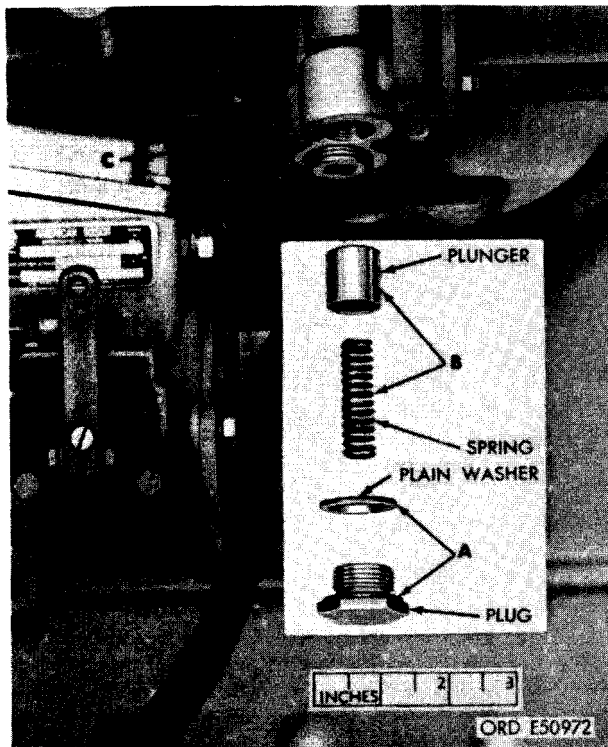
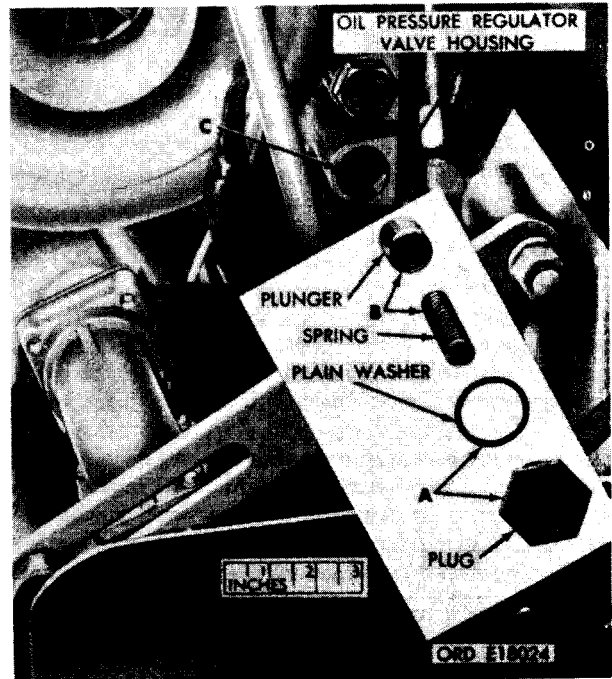

FIGURE 100. REMOVING, INSTALLING, AND INSPECTING OIL COOLER BYPASS VALVE.
FIGURE 102. REMOVING, INSTALLING, AND INSPECTING PISTON OIL COOLING NOZZLE OIL PRESSURE RELIEF VALVE.
**a. Removal and Inspection.** Figure 100. (A) Remove oil cooler bypass valve plug and plain washer from oil cooler and filter housing. Discard plain washer. (B) Remove oil cooler bypass spring and plunger from machined bore in oil cooler and filter housing. (C) Inspect oil cooler bypass valve plunger bore in housing for burrs, scratches, wear, or obstructions. Clean bore thoroughly using dry-cleaning solvent or mineral spirits pain thinner. Remove slight burrs and scratches in bore with crocus cloth.
**c. Installation.** Refer to figure 100 and reverse the sequence of instructions and install the oil cooler bypass valve components. Use a new plain washer when installing oil cooler bypass valve plug.
**Note.** Components of the oil pressure regulator valve are the same as the oil filter bypass valve (fig. 99) and the oil cooler bypass valve (fig. 100) and piston oil cooling nozzle oil pressure relief valve (fig. 102) except for the spring which is longer. Do not interchange springs.
**Note.** The piston oil cooling nozzle oil pressure relief valve components are identical to the components of the oil filter bypass valve (fig. 99), and oil cooler bypass valve (fig. 100).
**a. Removal and Inspection.** Figure 102. (A) Remove piston oil cooling nozzle oil pressure relief valve plug and plain washer from oil pressure regulator valve housing. Discard plain washer. (B) Remove piston oil cooling nozzle oil pressure relief spring and plunger from bore in oil pressure regulator valve housing. (C) Inspect piston oil cooling nozzle oil pressure relief plunger bore in oil pressure regulator valve housing for burrs, scratches, wear, or obstructions. Clean bore thoroughly using dry-cleaning solvent or mineral spirits paint thinner. Remove slight scratches and burrs in bore with crocus cloth.
**c. Installation.** Refer to figure 102 and reverse the sequence of instructions to install the piston cooling nozzle oil pressure relief valve components. Use a new plain washer when installing plug.